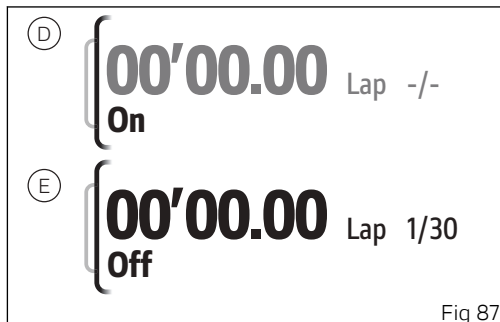

Fig 87
- If the function is disabled, "Off" is shown with the stopwatch (D, Fig 87); press ENTER button (3) to enable the function.
- If the function is enabled, "On" is shown with the stopwatch and indication of the available laps (E, Fig 87); press ENTER button (3) to disable the function.